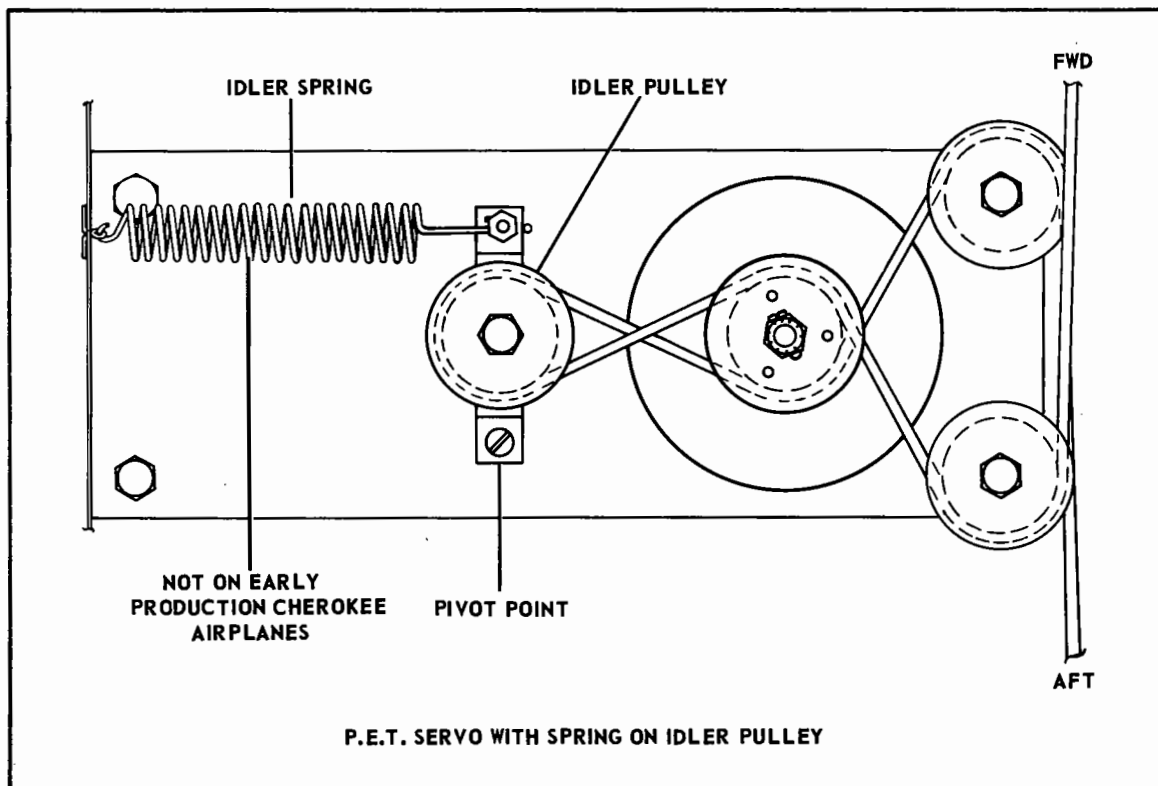

Figure 3-7. PA-28 and PA-32 Trim Servo Cable Routing
- d. On PA-28-151, Serial Nos. 28-7415001 and up; PA-28-161, Serial Nos. 28-7716001 and up; PA-28-180, Serial Nos. 28-4378 and up; PA-28-181, Serial Nos. 28-7690001 and up; PA-28R-180, Serial Nos. 28R-30005 and up; PA-28R-200, Serial Nos. 28R-35001 and up; PA-28R-201, Serial Nos. 28R-7737001 and up; PA-28R-201T, Serial Nos. 28R-7703001 and up; PA-28-235, Serial Nos. 28-10720 and up, (refer to Figure 3-7), route the trim cable from the forward section of the airplane around the aft idler pulley; then around the top capstan groove and around the aft side of the idler pulley located approximately in the center of the servo. Form a figure eight by continuing the cable around the bottom capstan groove; then around the forward idler pulley and route trim cable toward the aft section of airplane.
### 3-21. INSTALLATION OF TRIM SERVO. (PA-32.) (Refer to Figure 3-7.)